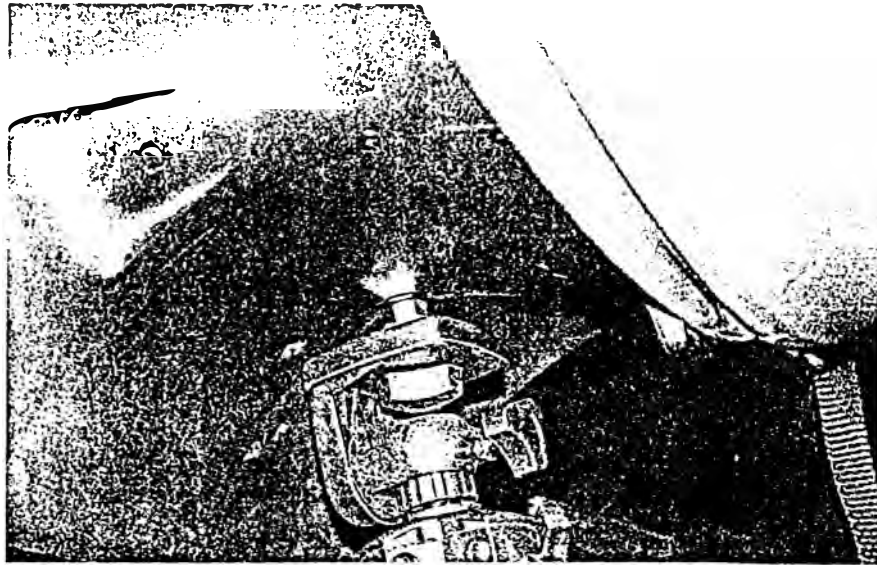

Figure 25: Mount EBT Balometer Base to Telescopic Stand
4. Mount the EBT Balometer base to the telescopic stand by fastening the screw on the telescopic stand to the threaded insert mounted on the base opposite the display/manometer (see Figure 25).